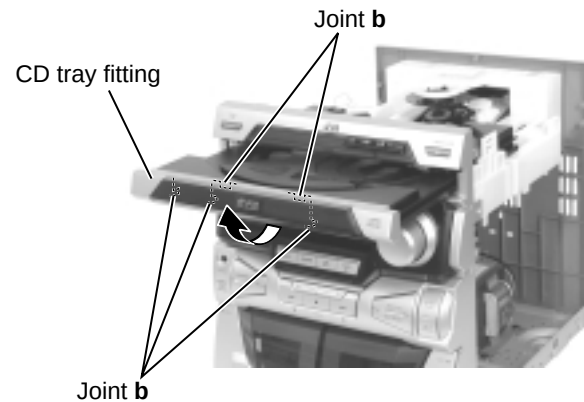

Fig.5
■ Removing the CD Tray fitting (See Fig. 5 to 7)